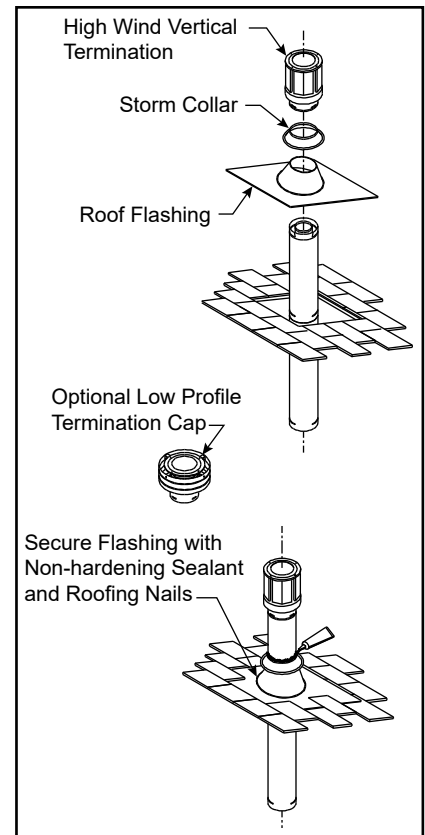

Figure 3.37
Ensure the roofing material overlaps the top edge of the roof flashing, Figure 3.37. Verify that you have at least the minimum clearances to combustibles at the roofline and in the attic.
Step 8 - Slip the storm collar over the pipe section, and push it down to the top of the roof flashing, Figure 3.37. Use non-hardening sealant between the storm collar and the pipe section